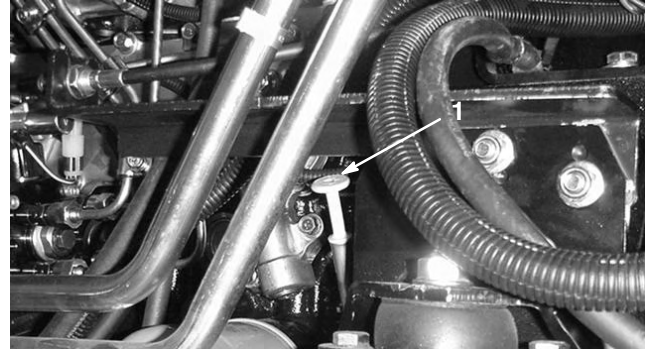
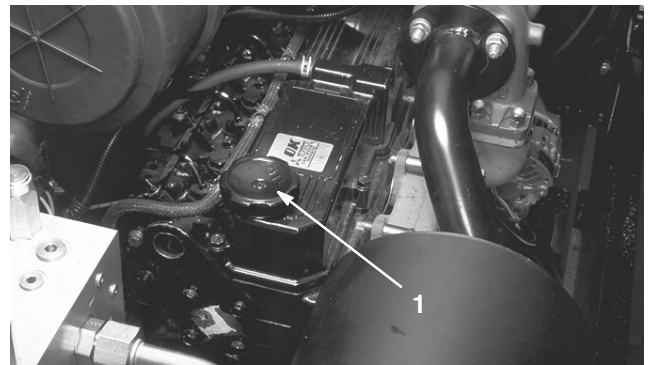
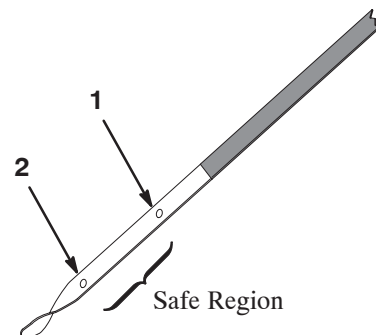

Figure 37
Figure 38
Figure 39
2. Remove dipstick, wipe with clean rag (Fig. 37) and fully insert in tube. Remove from tube and check oil level. Level should be between the lower and upper holes on the dipstick (Fig. 39).
3. If level is low, remove filler cap (Fig. 38). Add proper type of oil until level is between the holes on the dipstick (Fig. 39). **Do not overfill.**